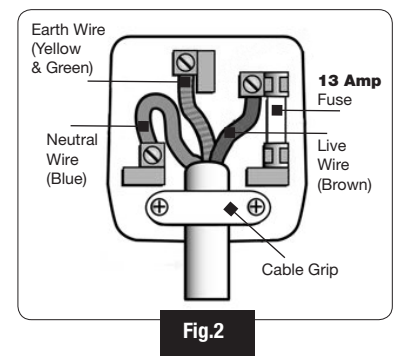

Fig.2
- Ensure that the power supply matches voltage requirements specified on the equipment and that the plug is wired correctly and fitted with the correct fuse (See **Fig.2**).